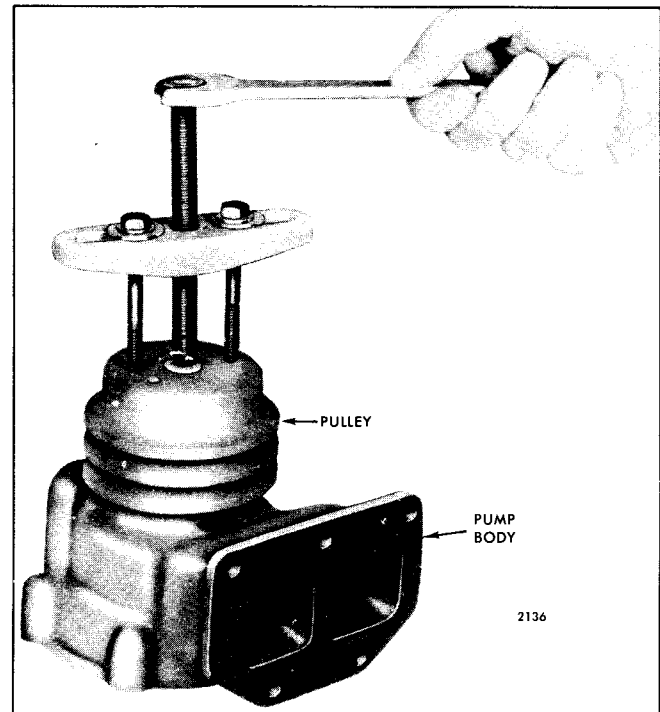

Fig. 7 – Removing Pulley Using Puller J 24420–A
1. Note the position of the pulley on the shaft so that the pulley can be reinstalled in the same position when the pump is reassembled. Remove the water pump pulley (Fig. 7).